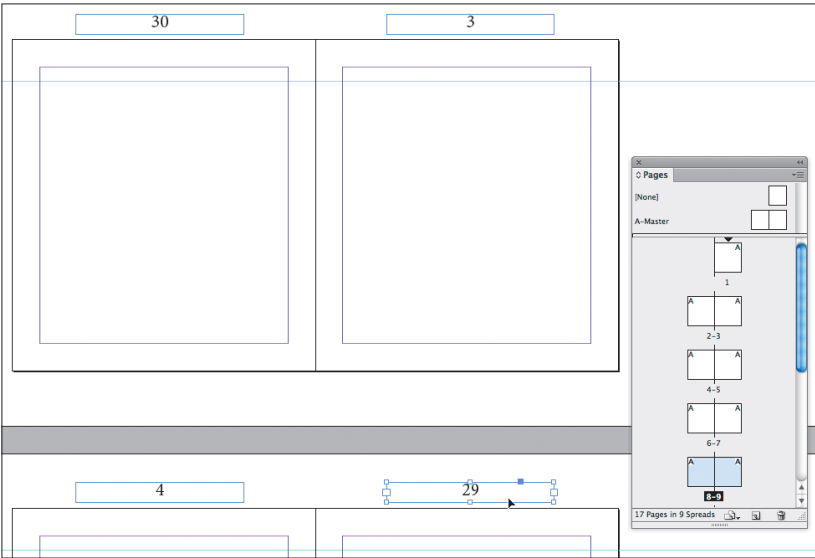
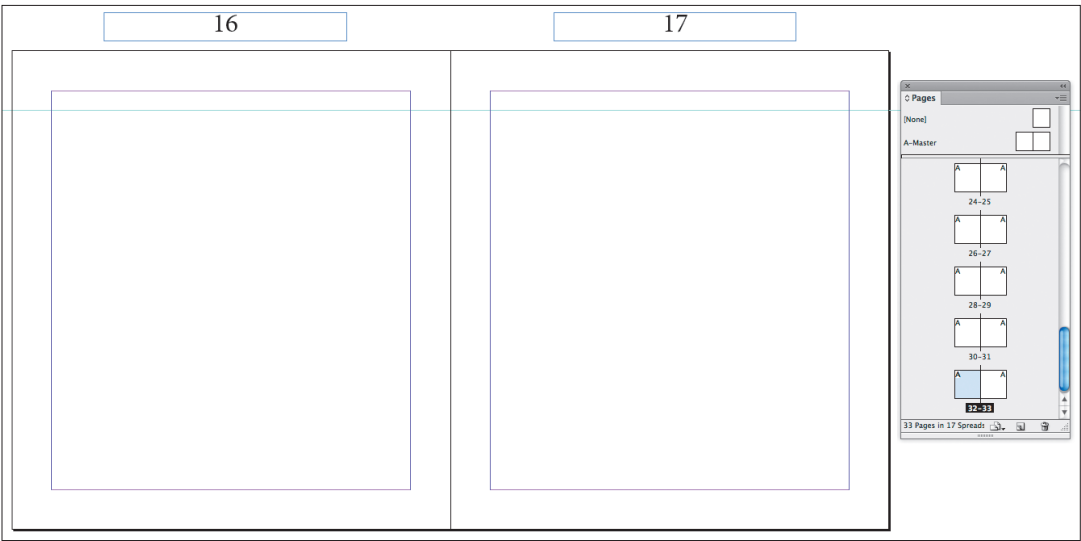

FIGURE 17.20 Notice the pattern as you label the pages with their printed sequence values: one set of diagonal numbers decreases and the other increases.
FIGURE 17.21 The center spread is on the last two pages in the Pages panel.
8. Continue to label each page. You'll notice a pattern as you decrease the page numbers staggering from the left side of the Pages panel to the right and increase the numbers staggering from the right side of the Pages panel to the left as you crisscross your way down each set of facing pages (FIGURE 17.20). The last set of pages (pages 32 and 33 in the Pages panel) is the center spread, pages 16 and 17 in the booklet (FIGURE 17.21).